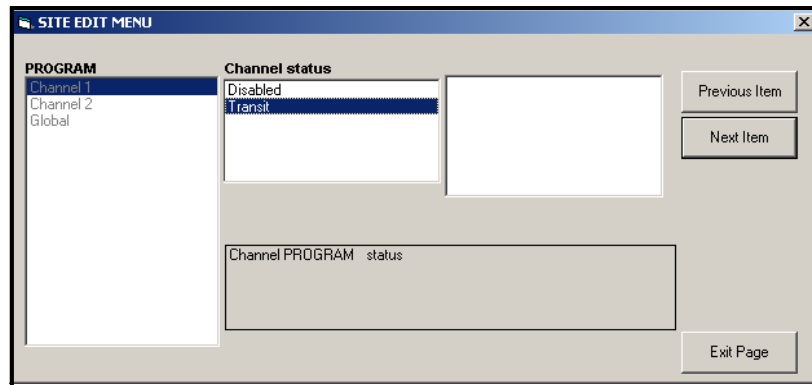

Figure 45: The *Status* Option in the Channel Menu
2. Highlight and double-click on the Status option in the center pane. The window now appears similar to *Figure 45*.